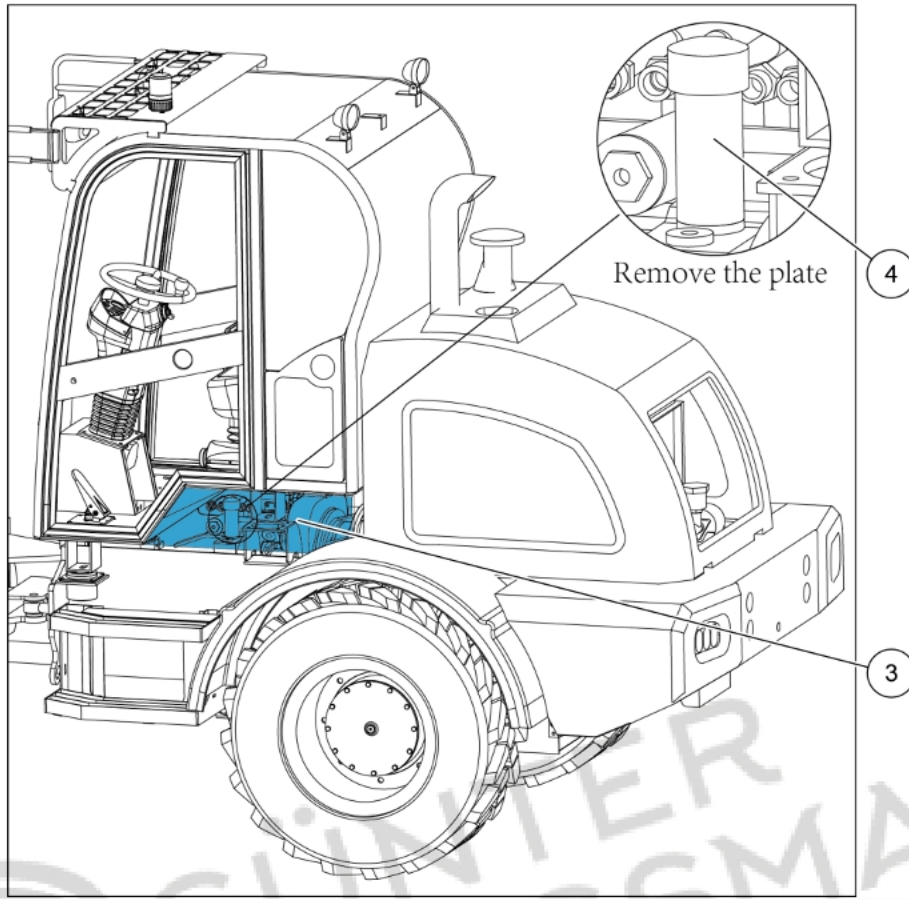

Figure 6-23 Transmission oil filler port
(1) Oil level gauge (2) Oil plug
Step 3: when the oil level is lower than the lower limit, remove the left plate (3) and add transmission oil from the oil filler port (4); when the oil level exceeds the upper limit, unscrew the oil plug (2) to drain the excess oil, as shown in Figure 6-23;